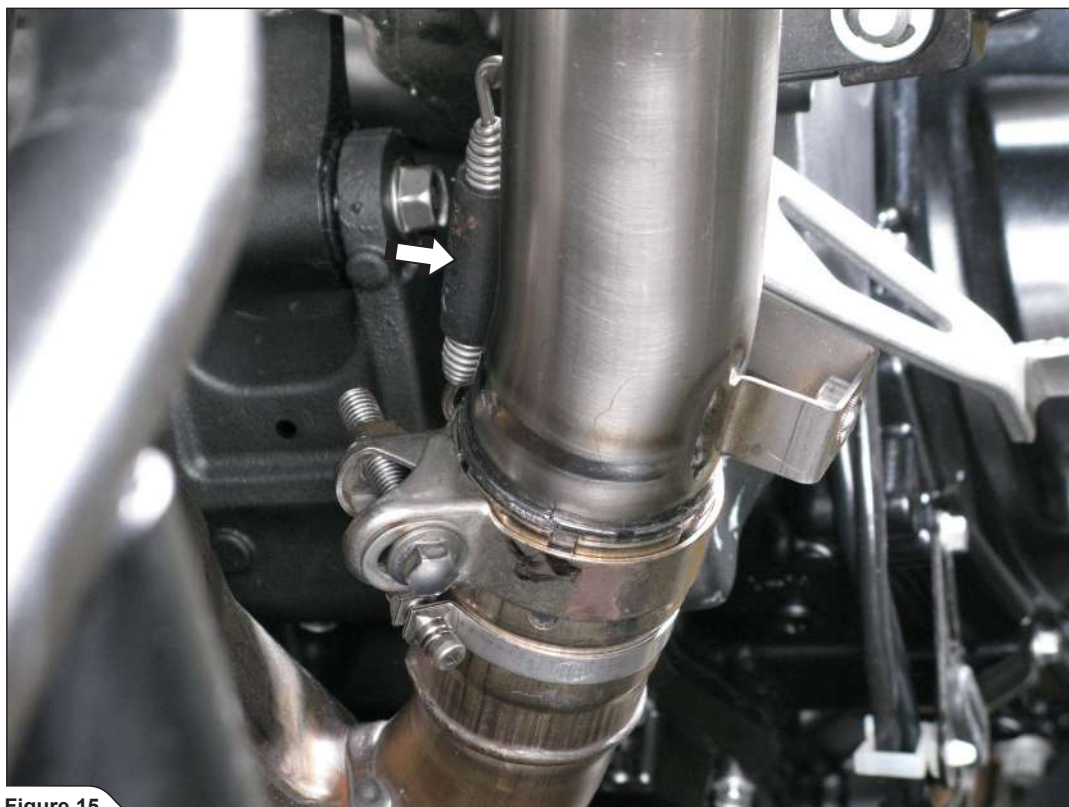

Figure 15
5. **For Slip-On Megaphone (model Z1000 only!):** slide the Megaphones all the way into the stock collector outlets, attach the springs, align the Megaphones in respect to the motorcycle and tighten the Megaphones to the brackets, using stock bolts and nuts (**Figure 15, 16**).